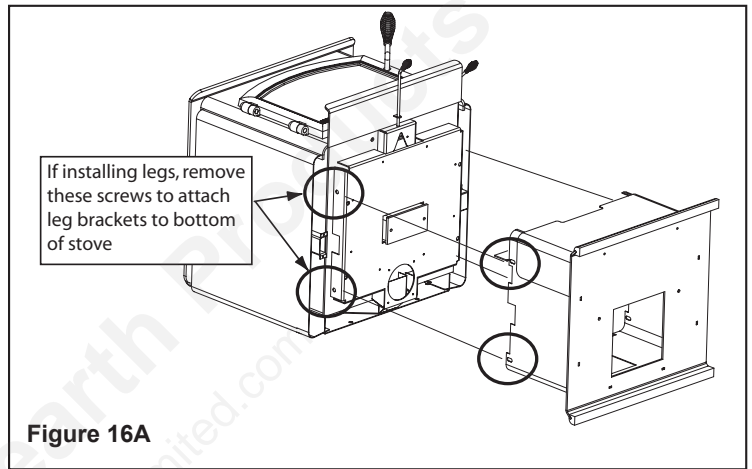

Figure 16A
5. Secure mounting brackets to the bottom of the stove with 1/4"-20 Phillips screws. These screws are located on the outer skin at the bottom rear of the stove. See **Figure 16A**.